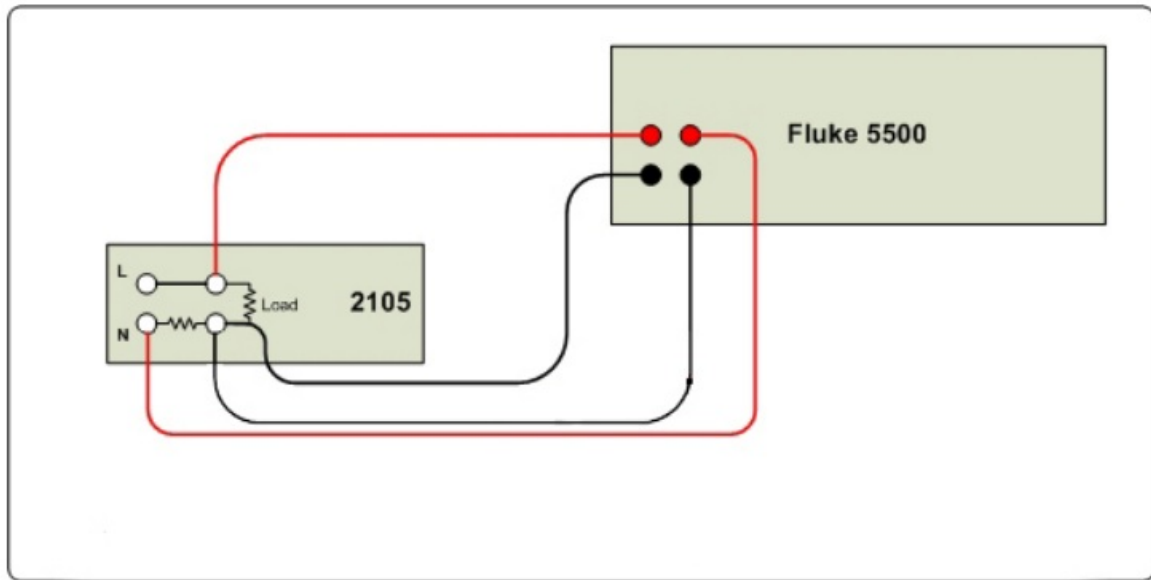

Figure 6-1 | DC Connections
5. DVM Negative lead to TP7, DVM Positive lead TP8. Apply +10A Adjust RV1 for -100.00mV. (see figure 6-1 for connections to calibrator)
Refer to Figure 6-1 if using the Fluke 5500.